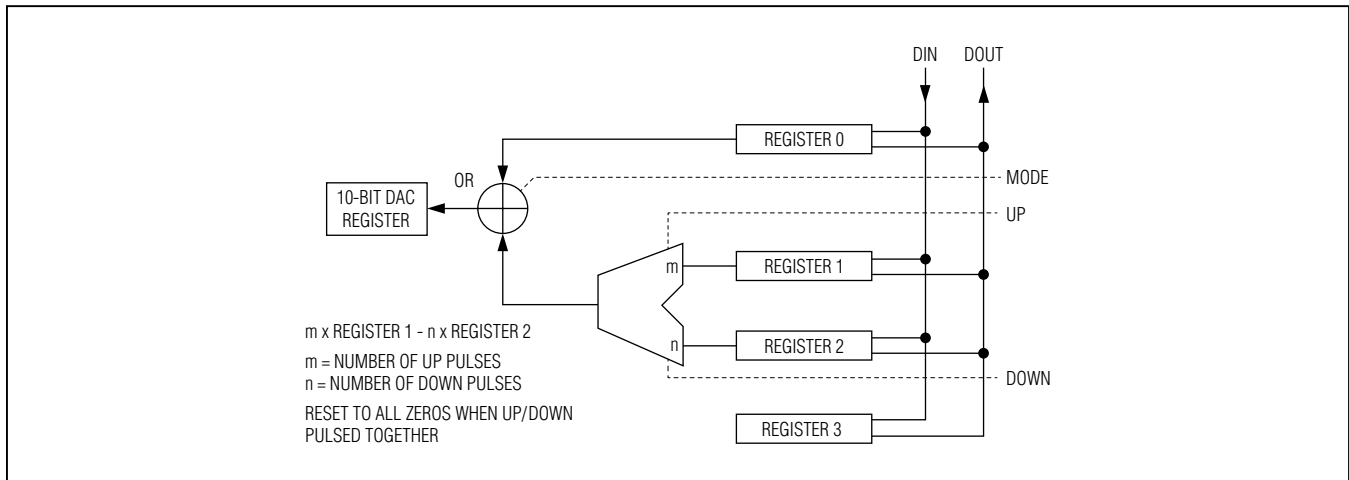
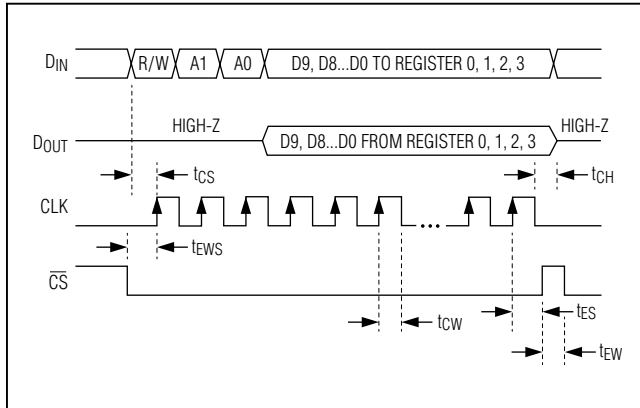
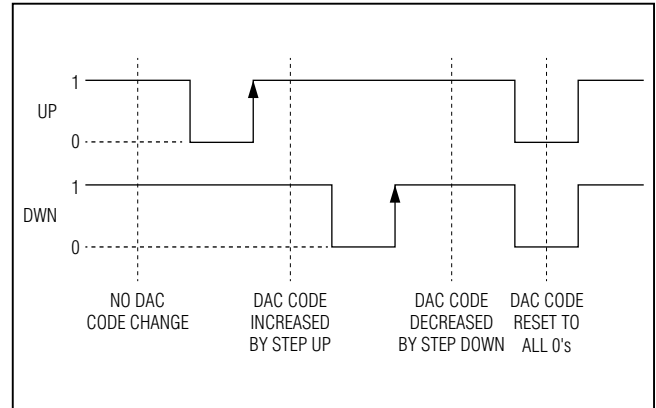

Figure 1. Register Configuration Diagram
Figure 2. SPI Timing Diagram
Figure 3. UP DWN Control Diagram (Mode = 1)
Figure 1 shows the configuration of the internal registers of the device, and Figure 2 shows the timing of the SPI bus. Register 0 is used to set the DAC code to the desired value, register 1 selects the step-up code, and register 2 selects the step-down code.
in Figure 1. This is applied to the 10-bit DAC register that drives the DAC. To increase (decrease) the code using the UP (DWN) pin, the DWN (UP) pin must be high and the UP (DWN) pin should be pulsed low to high. The part is designed to produce no wraparounds when using UP and DWN stepping, so the DAC code maxes out at 1023 or goes no lower than 0. See Figure 3 for the UP and DWN control operation.
The device can be controlled with a 4-wire SPI-compatible serial interface. Figure 2 shows a timing diagram for the interface. In the write mode, a 13-bit word is loaded into the device through the DIN pin with  $\overline{CS}$  set low. The first bit of the word in the write mode is 0, and the next two bits select the register to be written to. See Table 2. The next 10 bits contain the data to be written to the selected register. After the 13 bits are shifted in, a low to high  $\overline{CS}$  command is applied and this latches the 10 bits into the selected register. The entire write command is ignored if  $\overline{CS}$  is pulsed low to high before the last data bit is successfully captured.
| Logic 0 Pulse | Logic 1       | Increase DAC code* by amount located in register 1. UP pulsed from high to low to high (Figure 3).  |
| Logic 1       | Logic 0 Pulse | Decrease DAC code* by amount located in register 2. DWN pulsed from high to low to high (Figure 3). |